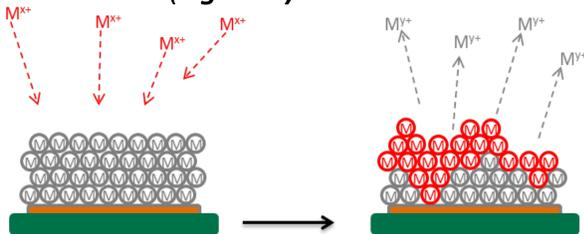

Figure 2: Schematic of immersion plating
**Immersion coatings** are similar to electroless ones in that there is no requirement for an electrolytic setup. However, the substrate itself acts as the reducing agent, being oxidised from the surface enabling metal deposition from solution (**Figure 2**).